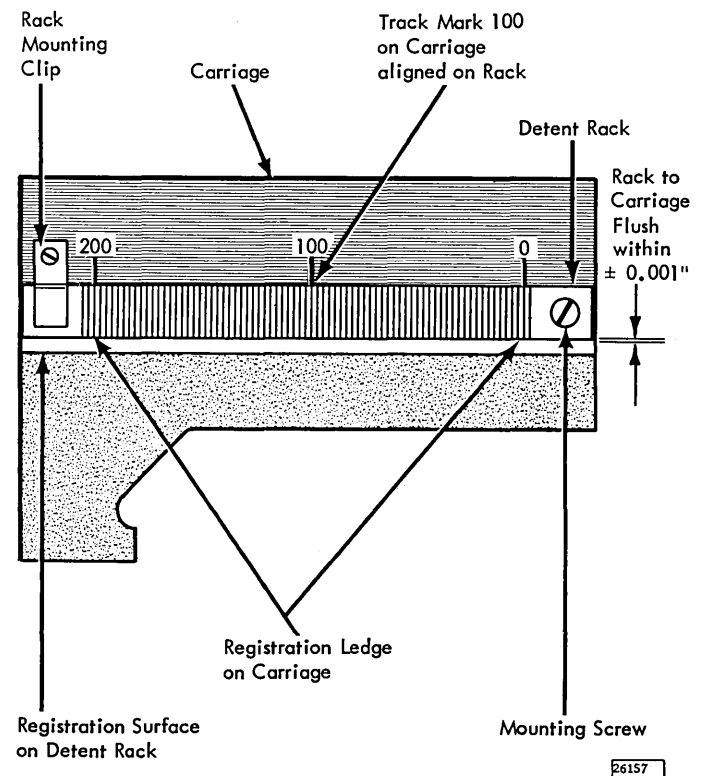

Figure 4-5. Detent Rack Removal and Replacement
2. Remove the single binding-head mounting screw and clip that secure detent rack (Figure 4-5) to the carriage.
1. Place detent rack in position shown in Figure 4-5. Position rack so that calibrated mark for track 100 on carriage is aligned with corresponding mark on rack. Press downward on rack to ensure contact between registration surfaces on detent rack and registration ledge on carriage (refer to section 4.7.4 for detail of adjustment).